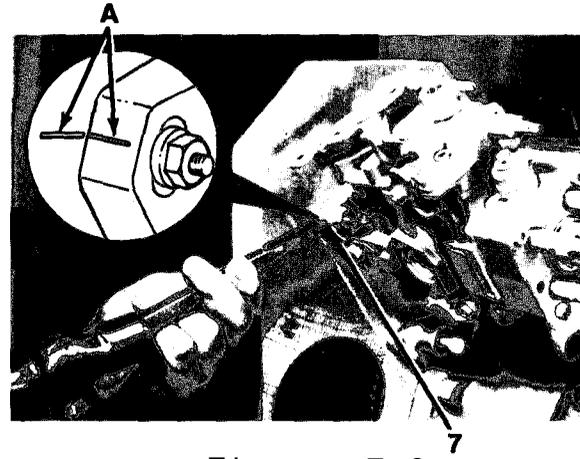

Figure 7-9
14. Matchmark (A, Figure 7-9) injection pump mounting flange with gear housing.
15. Using 13 mm wrench, remove three flange nuts (7) from mounting studs.